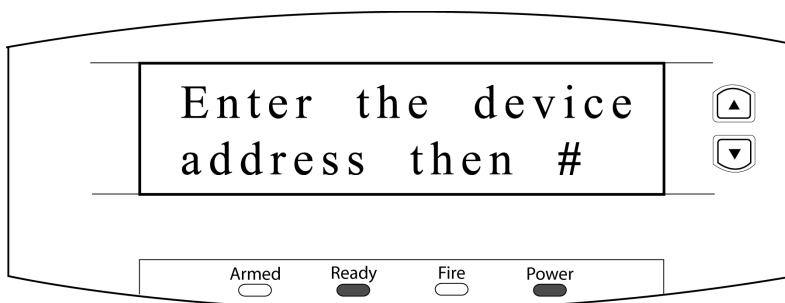

Figure 4: Alarm Panel - Enter Device Address
3. Enter the programming code for the NX-8E (the default is set at **9 7 1 3**) followed by the **#** key. The alarm panel then prompts for the device address (see Figure 4).